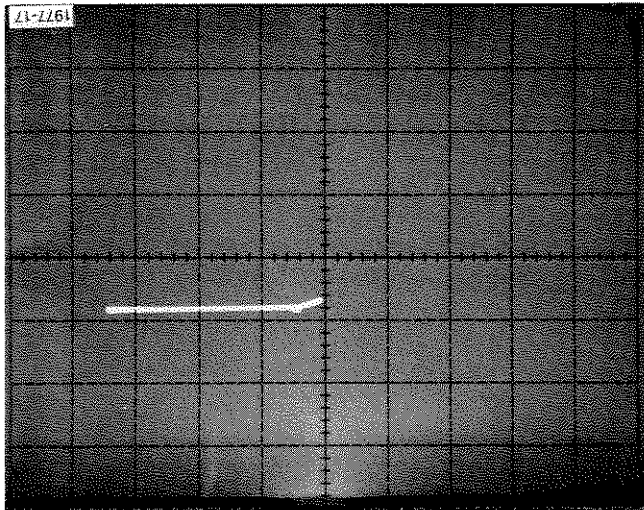

Fig. B-6. Display of + supply current.
e. Press the 577 Erase button. The display that returns should resemble Fig. B-6. The display shown represents approximately 4 mA of supply current.